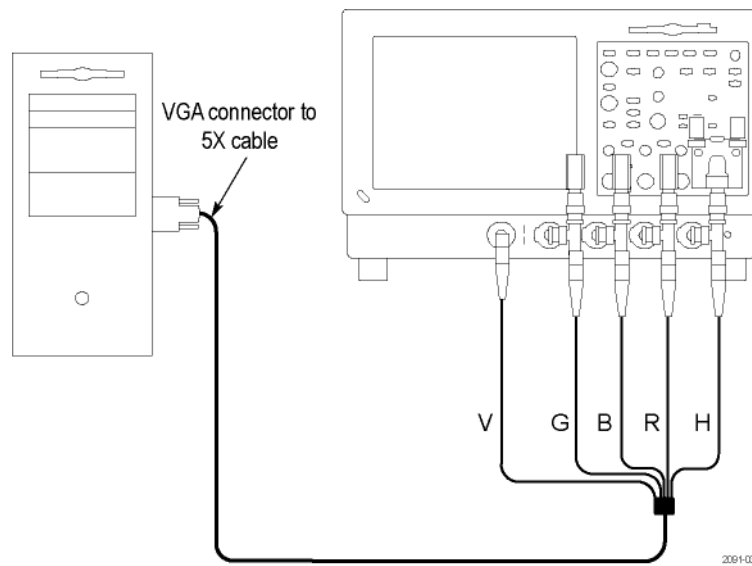

Figure 2-23: Connecting the PC video output signals to the VM5000 / TDS5000 Series instrument
3. Connect the PC video output signals to the VM Series system. See Figure 2-23. Connect the H Sync signal using the 2.21 k Ω adapter to begin with. The VM Series System will prompt you to change it to the 301 Ω adapter if necessary.